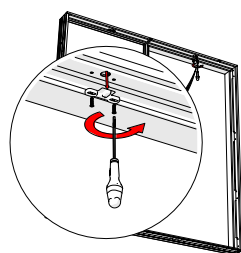

Figure 8: Remove soft-close catch
- C: Removing the soft-close catch (figure 8)